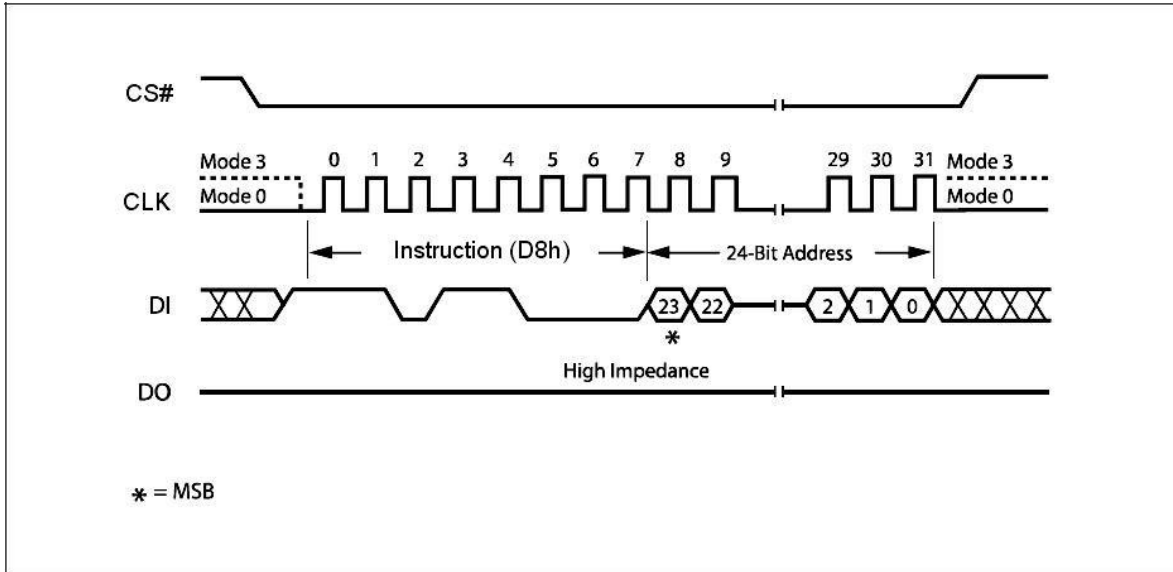

Figure 22. 64KB Block Erase Instruction Sequence Diagram
The instruction sequence is shown in Figure 22. Chip Select (CS#) must be driven High after the eighth bit of the last address byte has been latched in, otherwise the Block Erase (BE) instruction is not executed. As soon as Chip Select (CS#) is driven High, the self-timed Block Erase cycle (whose duration is  $t_{BE}$ ) is initiated. While the Block Erase cycle is in progress, the Status Register may be read to check the value of the Write In Progress (WIP) bit. The Write In Progress (WIP) bit is 1 during the self-timed Block Erase cycle, and is 0 when it is completed. At some unspecified time before the cycle is completed, the Write Enable Latch (WEL) bit is reset.